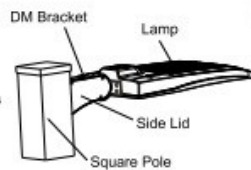

Figure 4
Step 2: Put the connected wire into the junction box, then cover the junction box. [Figure 4]